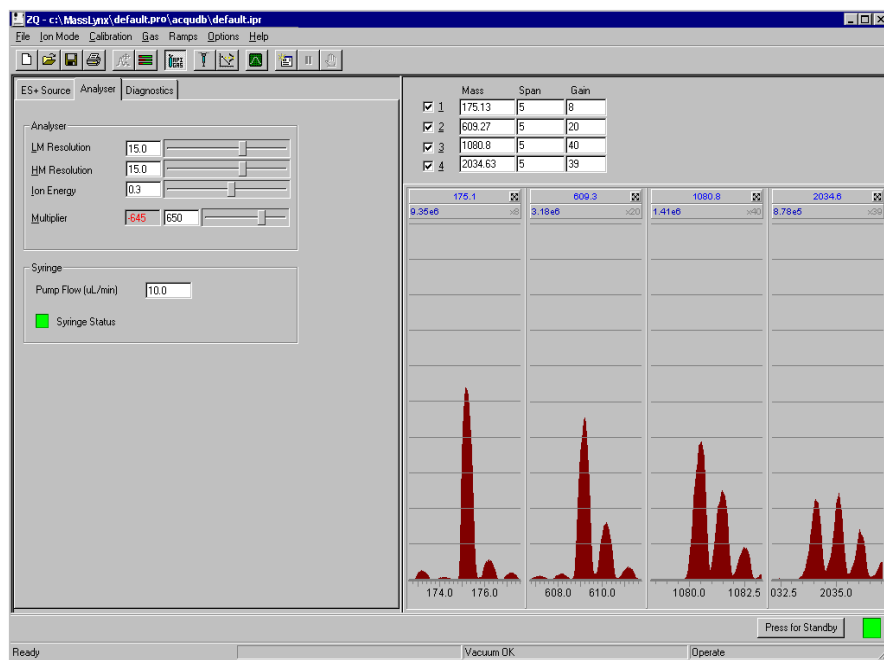

Figure 3-5 Tune Window Displaying the Analyser Page
7. Set the syringe pump to deliver 10  $\mu\text{L}/\text{min}$  by entering that rate in the Pump Flow field of the Analyser page (Figure 3-5).
1. Click the **Analyser** tab. The Tune window Analyser page appears (Figure 3-5).